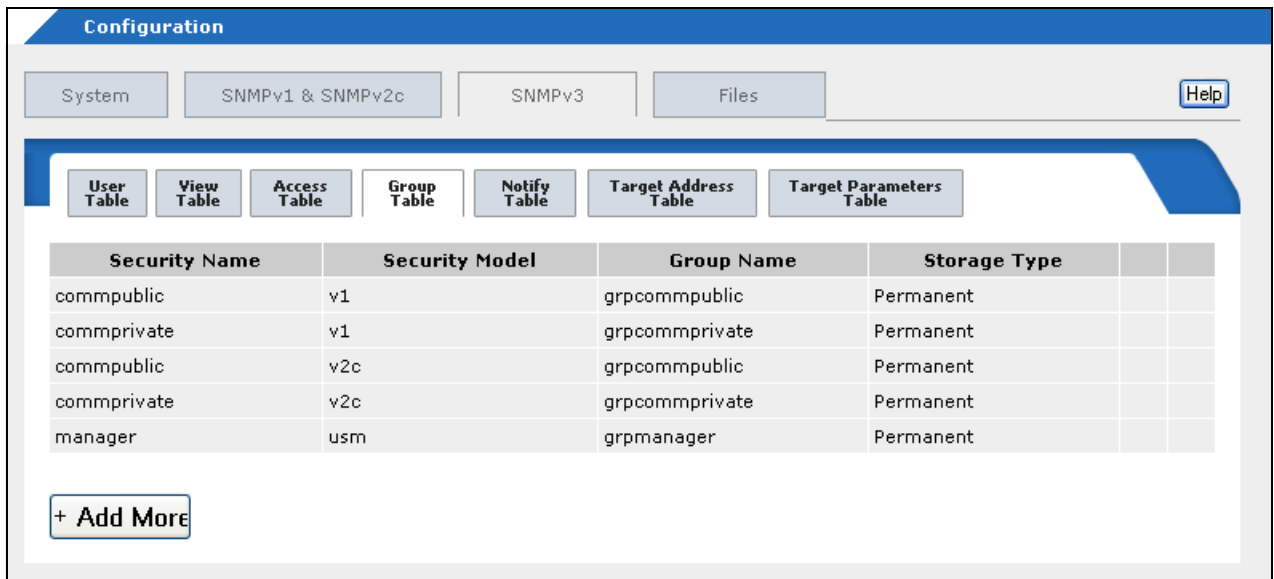

Figure 131. SNMPv3 Group Table Tab
- ❑ :Click the **Configuration** button in the menu bar and then select the **SNMPv3** tab and the **Group Table** tab. The tab is shown in Figure 131.